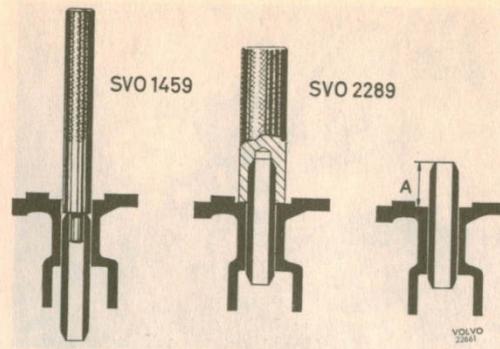

Fig. 1-36. Replacing valve guides
2. Press in the new guides by using tool SVO 2289, which presses them in to the correct depth. See Fig. 1-36.